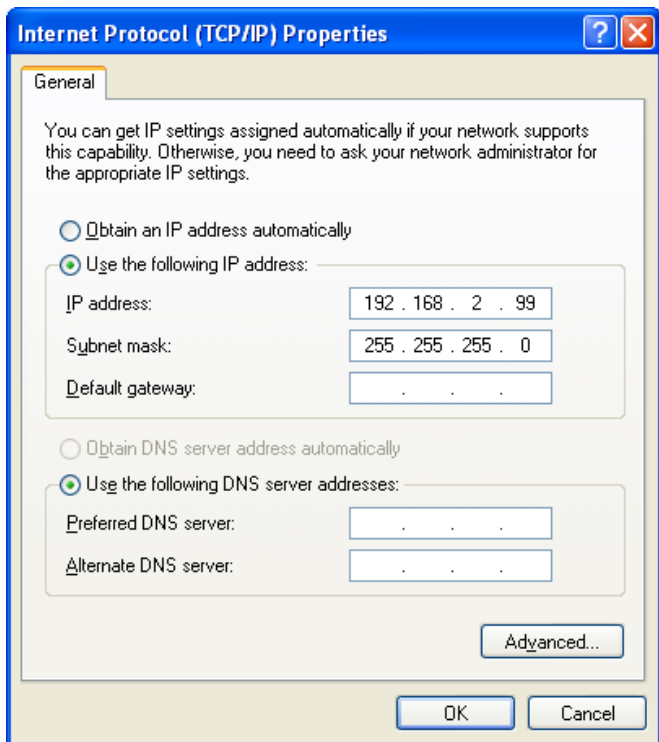

Figure 47
- b. If your adapter is listed in **RED text** or is still not listed, go back and compare IP address values in Figure 15 of the *Configuring the JPRO® DLA+ Wireless Adapter* section and Figure 47 of the *Configuring your PC to use the JPRO® DLA+ Wireless Adapter* section.
To do this, verify and compare IP address values in Figure 15 of the Configuring the JPRO® DLA+ Wireless Adapter section and Figure 47 of the Configuring your PC to use the JPRO® DLA+ Wireless Adapter section.